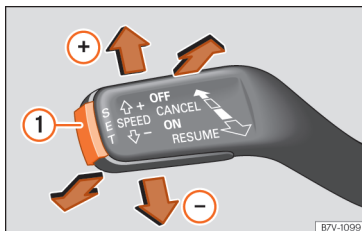

Fig. 251 On the left of the steering column: third lever for operating the GRA.
- Push button **SET** >>> Fig. 251 ①.
- Press the button **SET** >>> Fig. 251 ① to reduce speed in small increments of 1 km/h (1 mph).